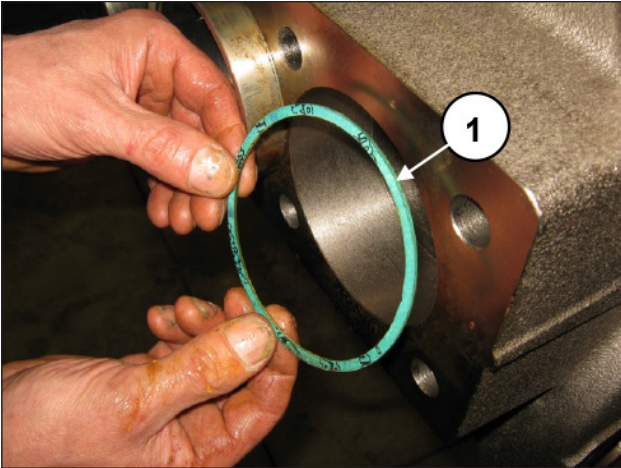
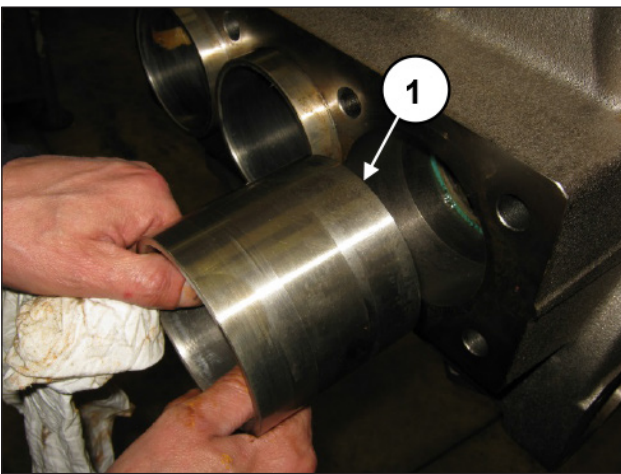

Fig. 135
Fig. 136
Insert the seals (pos. ①, Fig. 135) and the cylinders (pos. ①, Fig. 136) in the cylinder seat on the head.